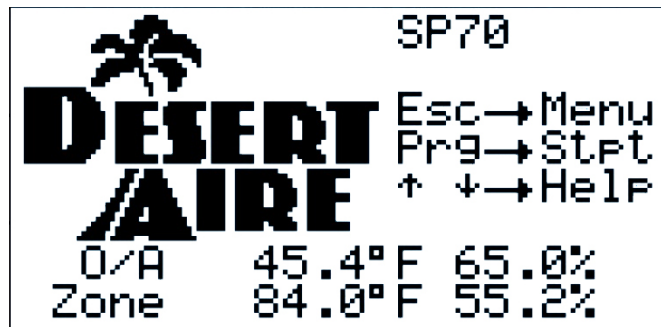

Figure 1
2.1 Menu Overview and General Instructions (Figure 1)
Your Desert Aire controller is pre-programmed and configured at the factory for use in the application you have specified. The internal display terminal (IDT, see Figure 1) allows the operator to monitor and adjust the setpoints of your Desert Aire system. The IDT has an LCD screen and six keys. These keys are labeled as below:
The Home Screen (Figure 1) displays the Desert Aire logo and shows the dehumidifier status, zone temperature and relative humidity and the operational state of the fan, compressor and air heating. The unit type is displayed in the upper right of the screen indicating SP and the tonnage. Below this line, “Esc→Menu” indicates that if the **Esc** key is pressed, the Main Menu will be displayed. Pressing Esc on any other screen will take you back one screen. The “Prg→Stpt” indicates that if the **Prg** key is pressed, the setpoints can be changed. The “↑ ↓ →Help” indicates that if the **UP** or **DOWN** keys are pressed, the help screens will be shown. The **UP** or **DOWN** keys will now scroll through the help screens.